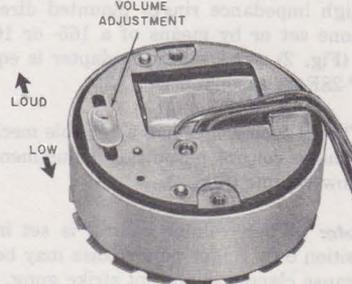

Fig. 4—PIA Ringer (Bottom View)
2.02 The P1-type ringer has a variable mechanical volume control permitting adjustment from loud to low volume (Fig. 4).